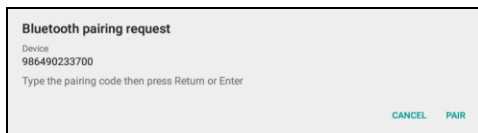

Fig. 4-19
3. Tap the desired VCI module and a pairing request similar to Fig. 4-19 will appear: